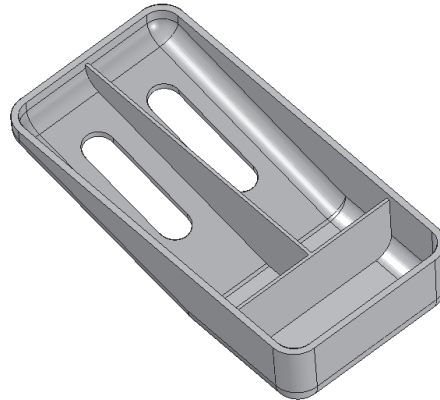

Figure 7-62 Model after creating the web network
- f. Create a web network in the model, refer to Figure 7-62.
6. Choose the **Finish** button from the ribbon bar to complete the web network, see Figure 7-62.